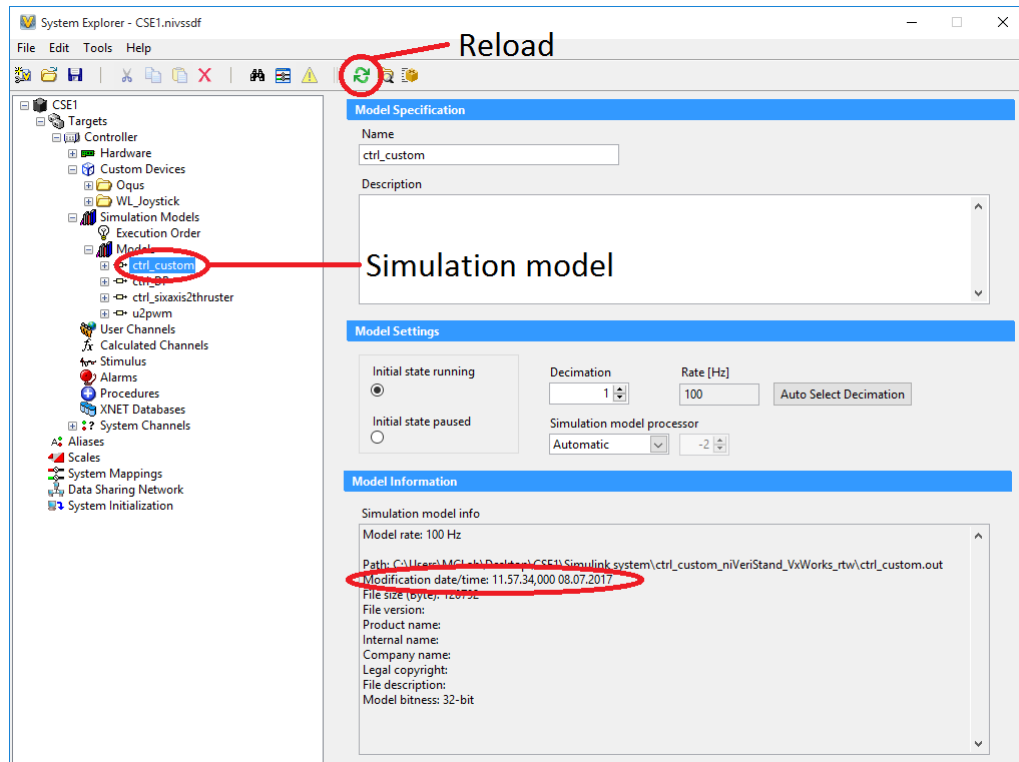

Figure 2.6: System Explorer window
3. Navigate to the **ctrl_custom** Simulation Model, verify the modification date/time is correct (time stamp from when you compiled the simulink model) and then press Reload as illustrated in Figure 2.6.